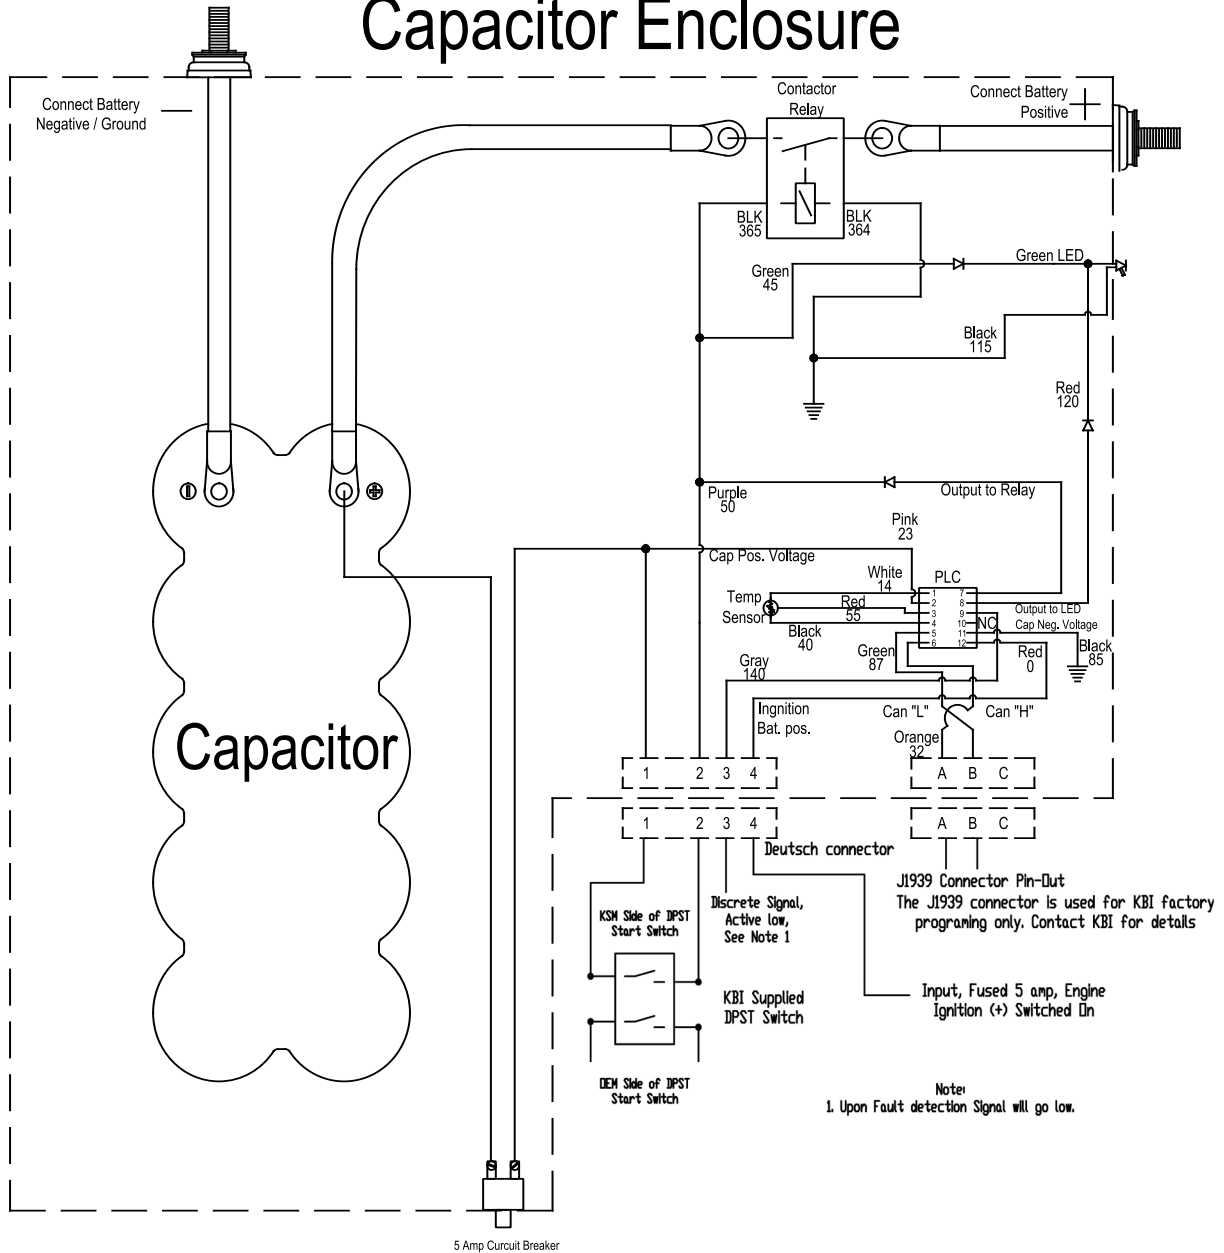
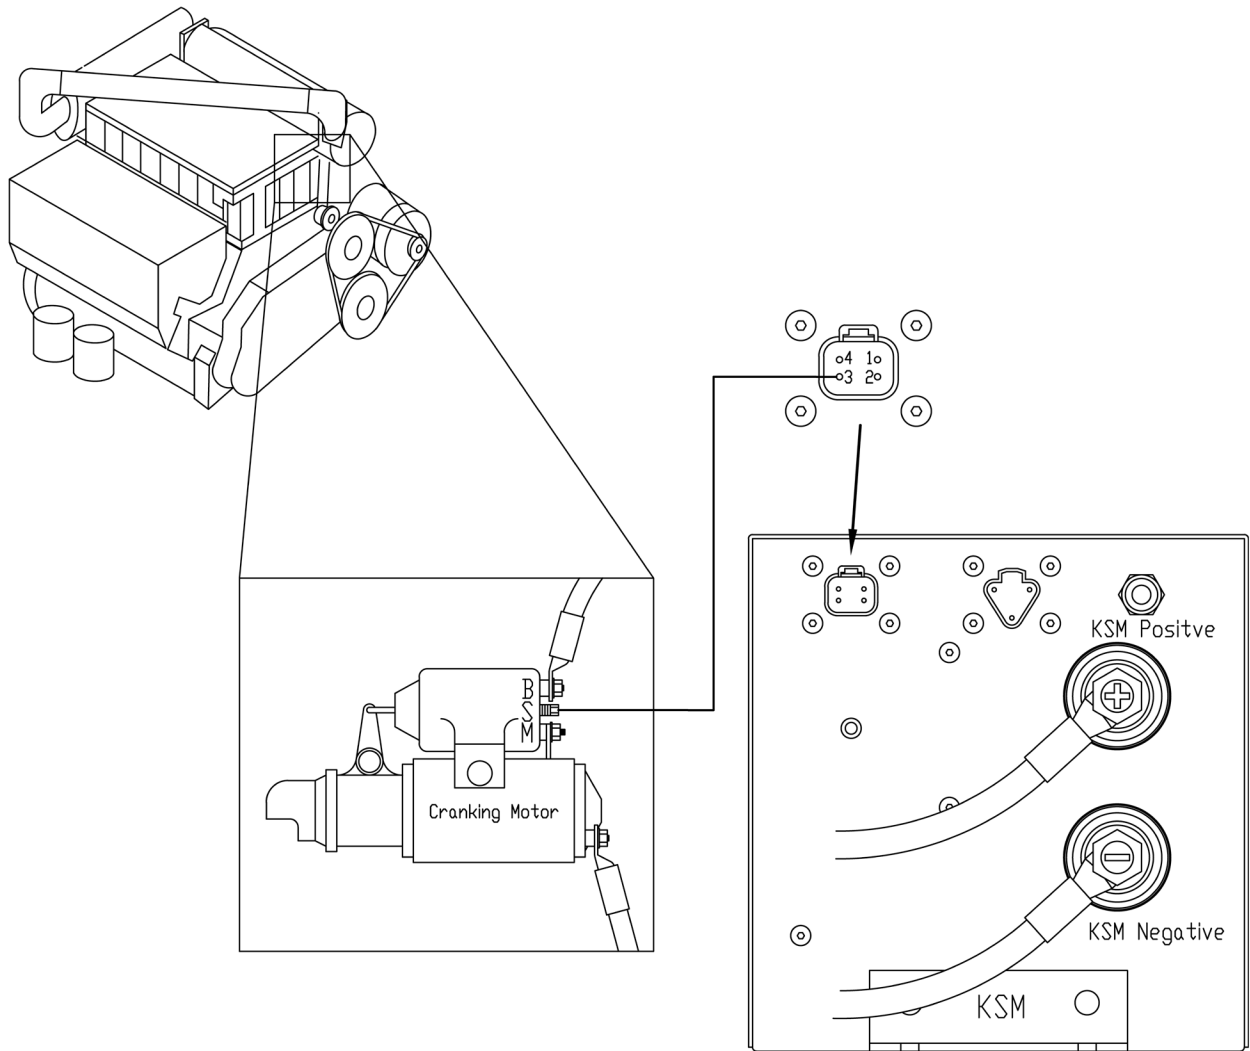

Figure 6: Standard KSM Schematic
Figure 7: Alternate Source for Start Signal
The following is the standard KSM installation method. However, some KSM models will use a variation of this method. If your KSM is equipped to accept an alternate start signal, or “S” terminal input see figure 7 & 8 found on page 17 & 18.
Pressing the DPST switch closes the contactor inside the KSM enclosure, using power from the KAPower module, regardless of the state of charge of the vehicle or equipment’s batteries. Pressing the DPST switch also engages the cranking motor circuit, just as if the key switch to the crank/start position had been turned, or the vehicle’s or vessel’s start button (if so equipped) had been pressed. The DPST switch is wired in parallel with the existing starting system. This is done by wiring and using the recommended electrical circuit, displayed on the schematics in Figure 5 (page 14), or Figure 6 (page 16). This creates a parallel circuit with the OEM (Original Equipment Manufacturer) electrical circuit, allowing both the KSM and the OEM cranking motor circuit to be engaged, simultaneously. Once the engine starts, the Programmable Logic Controller (PLC) inside the KSM monitors the condition of the KAPower Module, and will close or open the contactor relay inside the KSM, based on the preprogrammed parameters inside the PLC. When the engine is stopped, the equipment is turned off. The contactor opens and the KAPower module remains isolated, waiting for the next engine-starting event, when the DPST switch is pressed.
3. As based on Figure 5, Figure 6, or Figure 7 create and wire the harnesses to the Deutsch connector. The KSM Deutsch connector has been provided with a mating connector that has pigtail wire leads tagged and identified in order to facilitate installation.
4. For the PLC input, pin four (4) of the wire interface connector, find a 5-amp power source from the vehicle, or vessel “key-on” ignition source that is live positive (+) **only**, when the ignition switch is on, and is capable of delivering up to 5 amps. This can often be sourced at the engine. Install a 5-amp fuse in this circuit within 7-inches of the power source. Use care not to disturb or compromise the engine’s own wiring harness, or connections.
5. Wire the DPST switch, and find and wire the appropriate PLC input (pin 4) as based and depicted on Figure 5, Figure 6, or Figure 7. Do not connect any wiring to the J1939 Connector. *The J1939 CAN-Bus is used for KBI Factory programming only. Contact KBI for details.*
2. This LED is also an indicator for how the KSM is functioning. The LED is connected in parallel with the contactor, and is also connected to an output on the PLC as shown in the Figure 6 and Figure 7. The PLC monitors the capacitor voltage during, and after, the recharge cycle. If the capacitor voltage drops below an acceptable level in the first 5 minutes after the recharge, the LED will flash, indicating a fault. If at any time while the PLC is powered up and the KSM Circuit Breaker trips or the capacitor voltage level drops below 6-volts (on a 12-volt unit) or 12-volts (on a 24-volt unit), the LED will flash in a sequence that indicates the fault, see Table 2.
1. If the wiring and harnesses are in good order, continue troubleshooting by unplugging the Deutsch connector on the end-faceplate of the KSM, providing access to the pin terminals on the KSM connector. Refer Figure 5, Figure 6, and Figure 7.